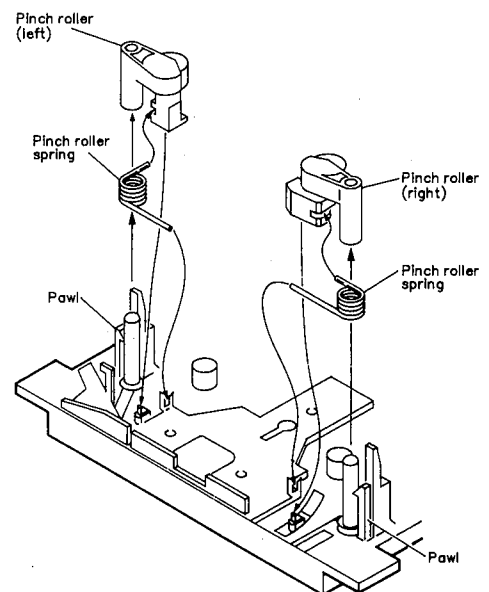

Fig. 2-9
2. For reengaging the pinch roller and pinch roller spring, refer to Fig. 2-9.